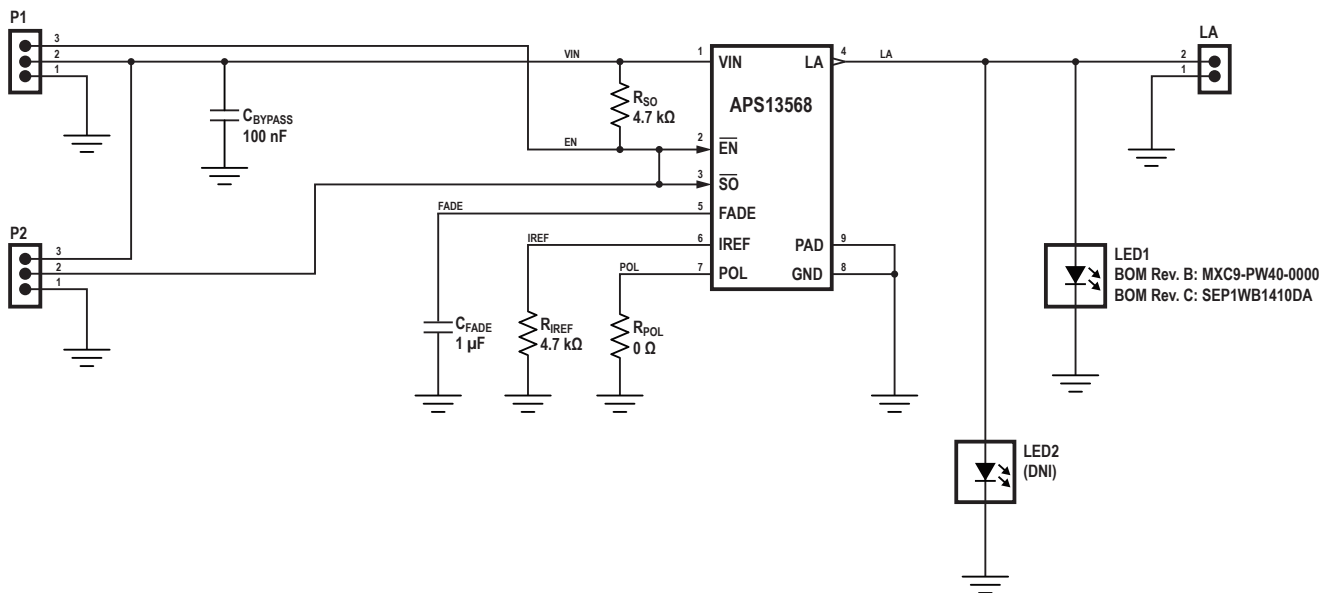
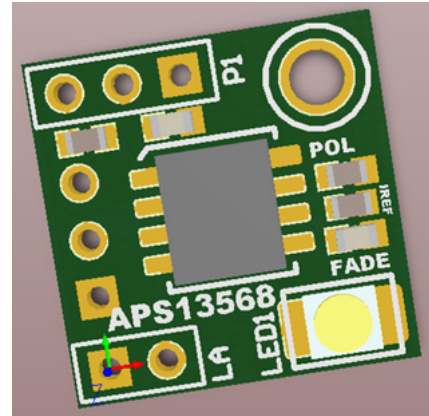
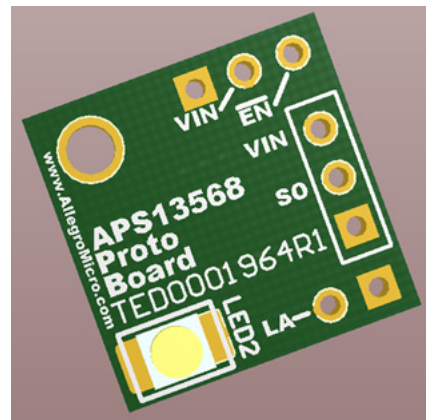

Figure 1: APS13568 Proto Board Schematic
Figure 2: APS13568 Proto Board – Top
Figure 3: APS13568 Proto Board – Bottom
The APS13568 Proto Board is a small two-layer PCB with components on both sides. All of the basic components are provided, including a magnet to actuate the device; if the APS13568 Proto Board is ordered with an LED installed (see below), the only requirement is to connect a 9-volt battery to the battery connector, which is already soldered to power (VIN) and ground (GND) via two of the through-hole connections on P1 (see Figure 1, Figure 2, and Figure 3).
Through-hole connections are provided for all external connections which may be required for the target application. All of the through-hole connections with square pads, which are not labelled, are ground connections. The remaining through-hole connections, the ones with round pads, are labelled for convenience on the bottom side of the board (see Figure 3).
A mounting hole for a #2 screw is also provided (see the upper right corner of Figure 2 and the upper-left corner of Figure 3). This screw should be non-ferrous to prevent interference with the operation of the Hall element.
The board can only be ordered with an LED pre-installed on the front side of the board (same side as shown in Figure 2); however, the board can support an LED installed on the back side of the board (opposite side as the APS13568 IC, as shown in Figure 3). If the LED will be located remotely, neither the front nor back LED should be installed.
Power and ground are applied to “P1”, shown in the upper-left corner of Figure 2. The VIN label can be seen on the bottom of the board, as shown in the upper-right corner of Figure 3. If desired, the included battery terminal can be replaced by connecting:
The through-holes for connecting the remote LED string are available on the “LA” header—see the lower-left corner of Figure 2.
- The anode of the remote LED string should be connected to Pin 2 of the LA header, labelled “LA” on the back of the board, as shown in Figure 3).
Connect the external Hall Element to Pin 3 of the P1 header, as shown in the right hand side of Figure 3.